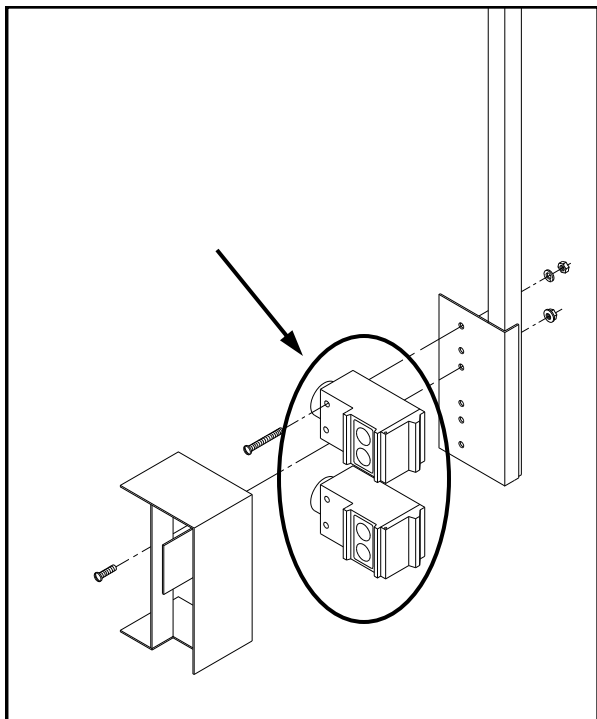
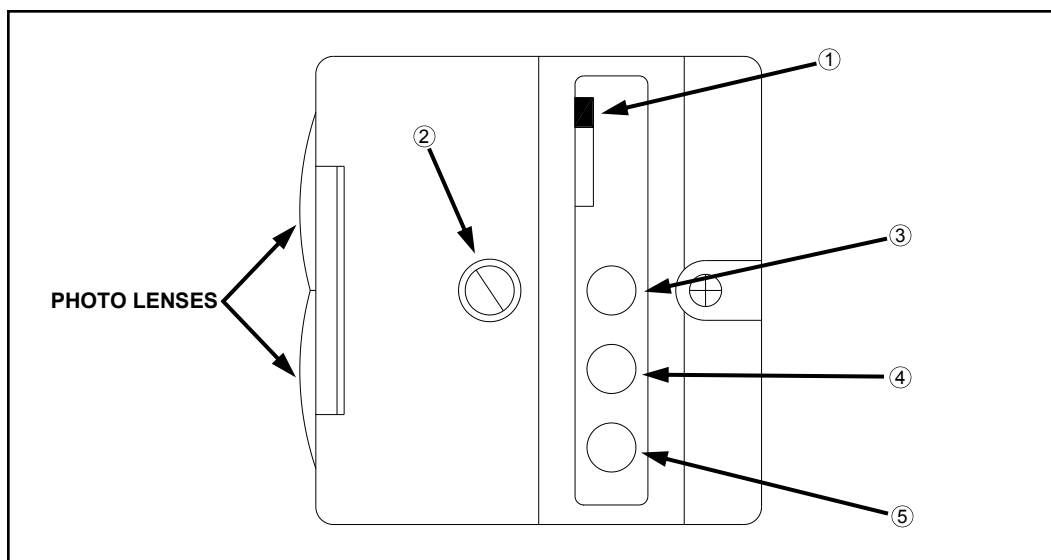

FIG 5.32
FIG 5.33
The upper and lower LS photolights (fig. 5.32) have L.E.D. lights (fig. 5.33) that indicate their operational status.
LT/DK SWITCH – Light/Dark switch on photolight (fig. 5.33, item 1) changes the activated condition of green L.E.D. (see below) from *ON* (“LT”) to *OFF* (“DK”). Switch does not affect the functional operation of the light, only how it is displayed. Switch should be set to “LT”.
SENSITIVITY ADJUSTMENT SCREW – Sensitivity adjustment screw (fig. 5.33, item 2) should always be set to maximum.
YELLOW L.E.D. – Yellow L.E.D. (fig. 5.33, item 3) indicates power on.
GREEN L.E.D. – Green L.E.D. (fig. 5.33, item 4) indicates output energized (sending a signal to Tassel-tron[®] box, opening the raise or lower stack valve).
RED L.E.D. – Red L.E.D. (fig. 5.33, item 5) indicates photolight is receiving reflected signal.